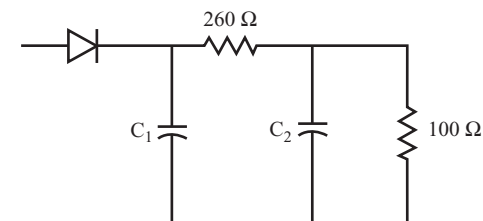

FIGURE 11.42
22 Figure 11.42 shows the half-wave rectifier circuit with the 260-ohm value you calculated for R_1 .
- A.** How long should the discharge time constant be for the circuit in Figure 11.42? Refer to problems 18 and 20. _____